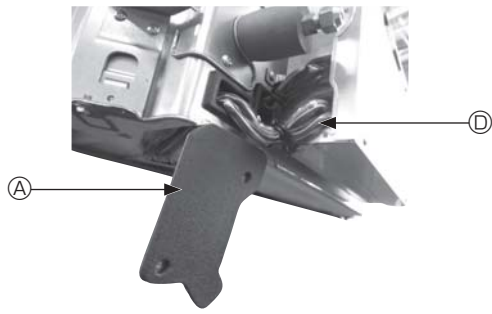

Fig. 5-4
- ① Remove the two screws securing the wire cover of the main unit, and then open the cover.
- ② Route the wires of the i-See sensor and signal receiver through the wire inlets in the electric component box as shown in the diagram and around the bushings on the side of the main unit. (Fig. 5-4)